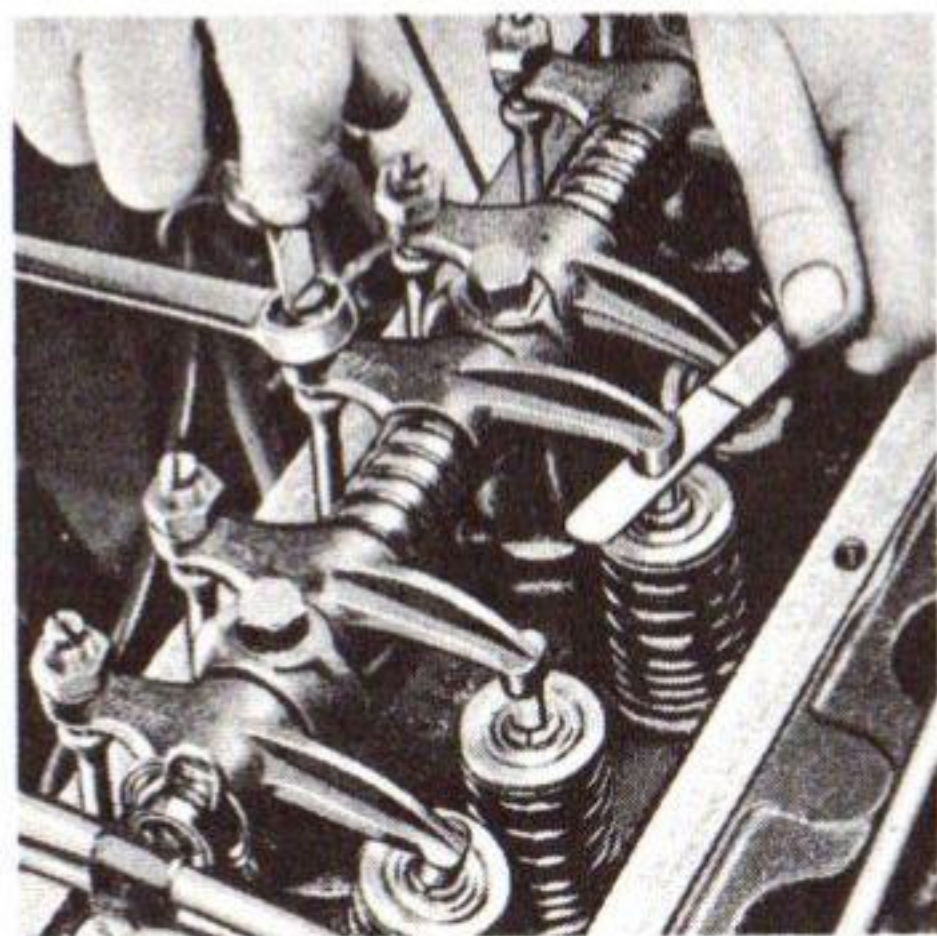

Fig. 65—Valve Tappet Adjustment
5. With engine normalized, check the clearance between the rocker arms and the valve stems with a feeler gauge (fig. 65). The clearance should be: